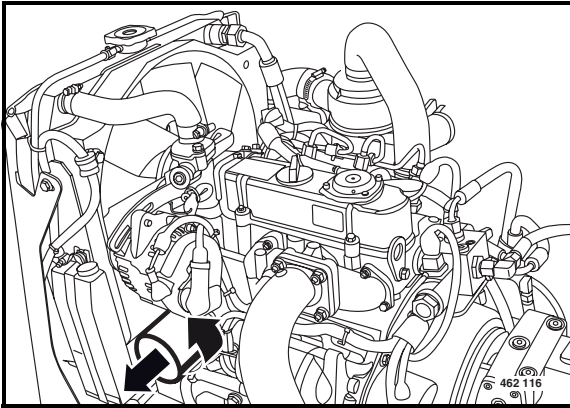

Fig. 132
- Unscrew the filter cartridge (Fig. 132) using an appropriate filter wrench.